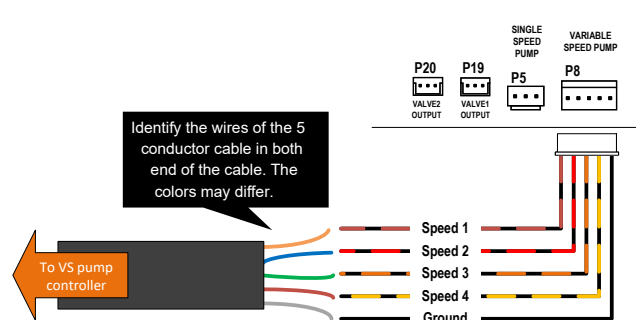

Figure 142. 5-Conductor Cable Wiring
2. Inside the heater's control box, use the harness adapter labeled "Pump speed selector" that comes with the accessories bag to connect the 5-conductor cable to the control board terminal labeled "VAR PUMP" [P8]. The adapter can supply 4 digital outputs at 30VDC and a ground signal. Make sure to identify the wires in both ends of the 5-conductor cable. Refer to **Figure 142** for guidance.